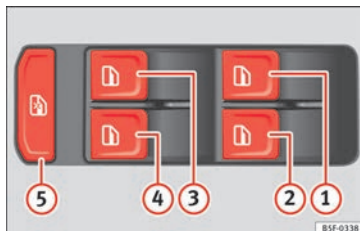

Fig. 44 Detail of the driver door: controls for the windows.
- For safety reasons, use safety button ⑤
- » Fig. 44 that deactivates the window switches on the rear doors when children are travelling in the rear seats.
Press the safety button ⑤ » Fig. 44 to deactivate the controls on the rear doors. Pressing the safety button ⑤ again will reactivate the controls on the rear doors.